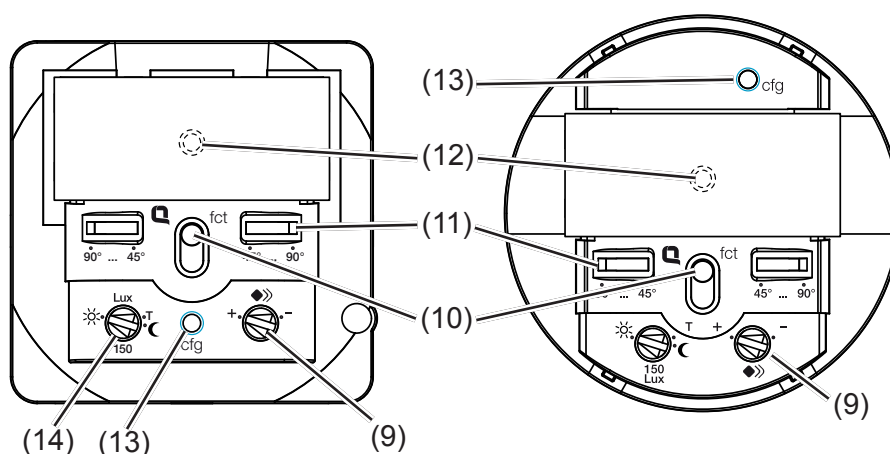
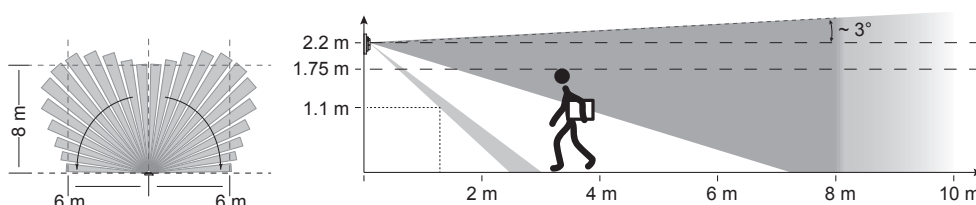

Fig. 5: Operating and adjustment elements of the bottom part of the application module
Figure 7: detection area of the motion detector for mounting height 2.2 m
The detection angle can be restricted for the right side and for the left side via each adjuster (Fig. 5, 10) between $45^\circ \dots 90^\circ$. Thus the detection angle can be between 90° and 180° (Fig. 7).
- Setting the test mode. To do so, set the response brightness potentiometer (Fig. 5, 13) to the T position.
- Turn the response brightness potentiometer (Fig. 5, 13) to the desired position.
- Turn the sensitivity potentiometer (Fig. 5, 9) to the desired position.